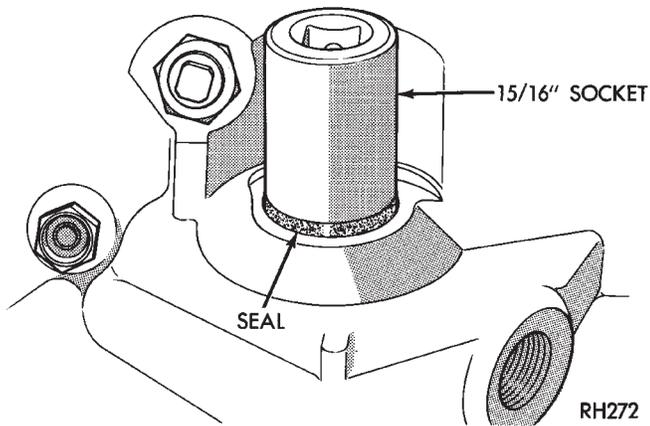

Fig. 153 Installing Manual Lever Shaft Seal
(36) Install magnet in oil pan. Magnet goes on small protrusion at corner of pan.
(37) Position new oil pan gasket on case and install oil pan. Tighten pan bolts to 17 N·m (13 ft. lbs.).
(38) Install new valve body manual shaft seal in case (Fig. 153). Lubricate seal lip and manual shaft with petroleum jelly. Start seal over shaft and into case. Seat seal with 15/16 inch, deep well socket.
(39) Install throttle valve and shift selector levers on valve body manual lever shaft.